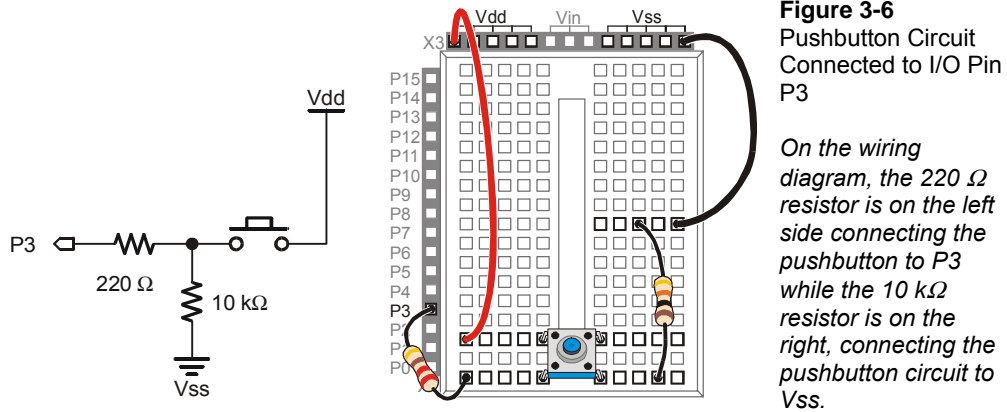
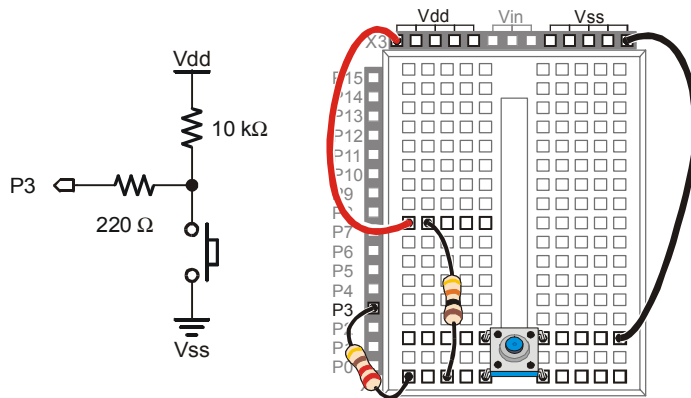

Figure 3-6
Figure 3-9
Figure 3-6 shows a pushbutton circuit that is connected to BASIC Stamp I/O pin P3.
√ Build the circuit shown in Figure 3-6.
The circuit you just finished working with has a resistor connected to Vss. This resistor is called a pull-down resistor because it pulls the voltage at P3 down to Vss (0 volts) when the button is not pressed. Figure 3-9 shows a pushbutton circuit that uses a pull-up resistor. This resistor pulls the voltage up to Vdd (5 volts) when the button is not pressed. The rules are now reversed. When the button is not pressed, `IN3` stores the number 1, and when the button is pressed, `IN3` stores the number 0.
- ✓ Modify your circuit as shown in Figure 3-9.
Active-low vs. Active-high: This pushbutton Figure 3-9 is called active-low because it sends the BASIC Stamp a low signal (Vss) when the button is active (pressed). The pushbutton circuit in Figure 3-6 the main activity is active-high because it sends a high signal (Vdd) when the button is active (pressed).